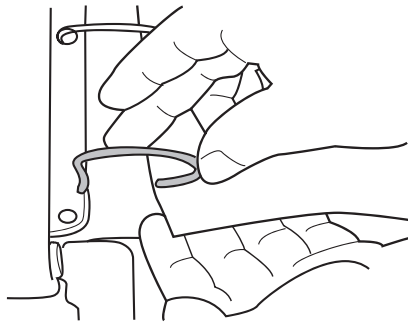

Fig.3
- A. Hold the canvas in position, then replace all of the springs on one side (Fig.3).